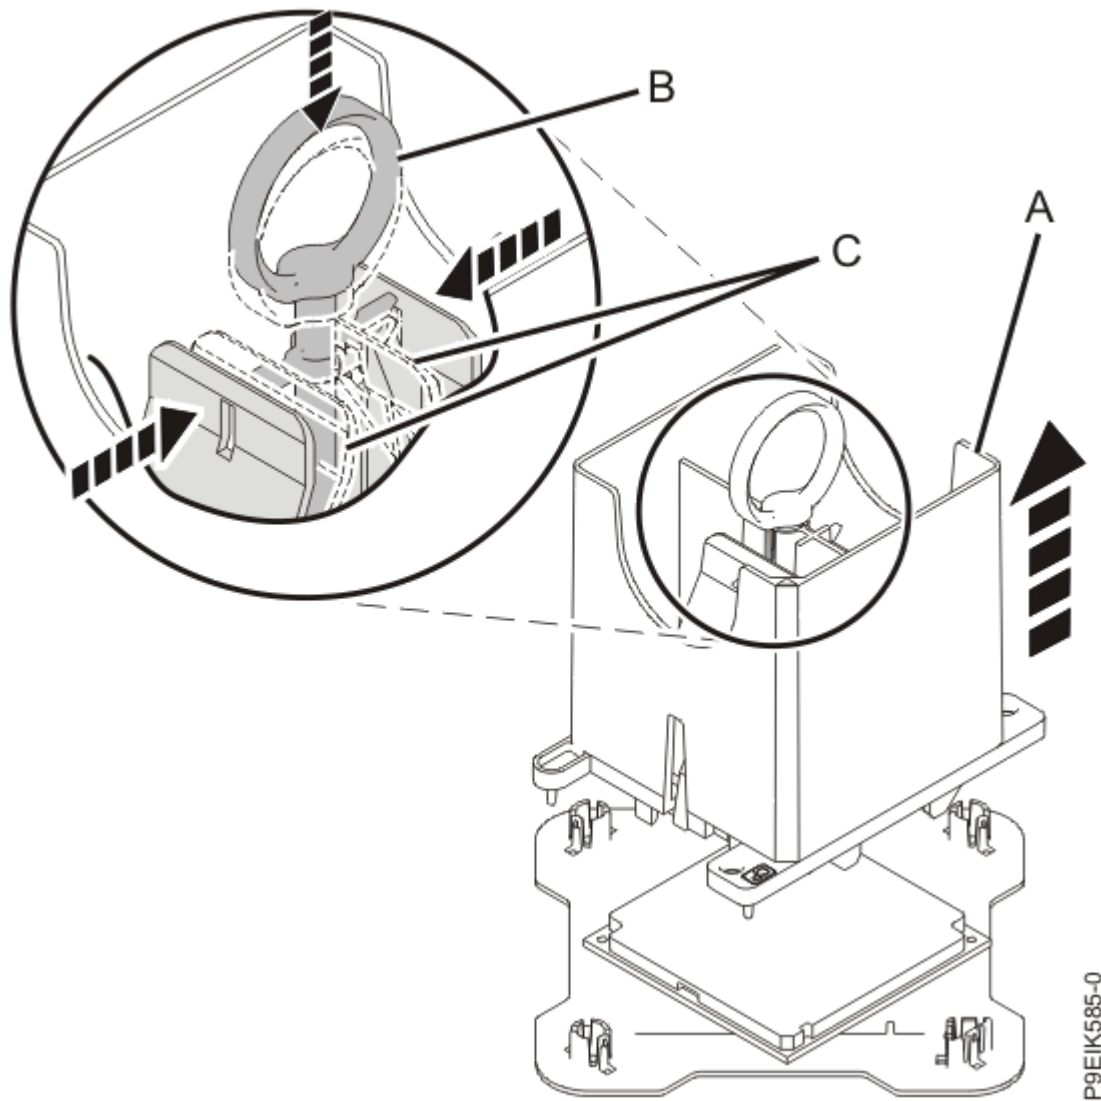

Figure 18. Releasing the system processor module from the tool
7. Release the system processor module by pushing the ring **(B)** downwards. Hold the ring **(B)** down while pushing the blue tabs **(C)** inwards as shown in Figure 18 on page 21. Ensure that the ring catches the openings on the blue tabs, and that the blue tabs are locked in a fixed position.